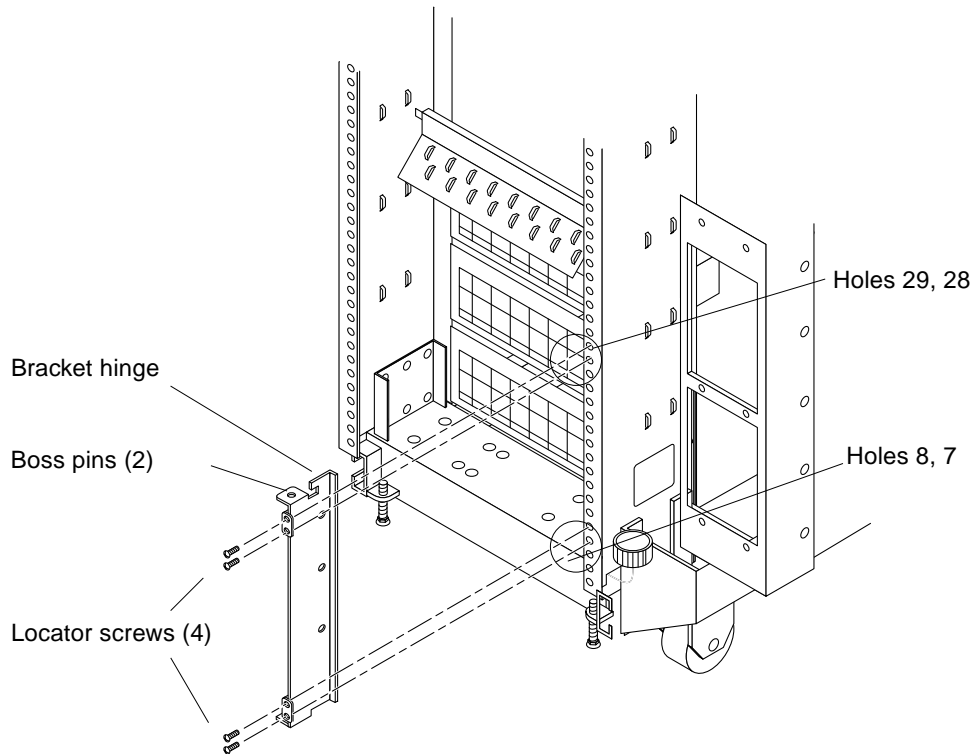

FIGURE 2-1 Installing the Terminal Concentrator Bracket Hinge to the Cabinet
- a. Locate the bracket hinge portion of the terminal concentrator bracket assembly (see FIGURE 2-1).**
Thread the screws into holes 8 and 29, as shown in FIGURE 2-1. The locator screws accept the slotted holes in the hinge piece.
Tighten these screws, and the screws in holes 8 and 29, as shown in FIGURE 2-1.